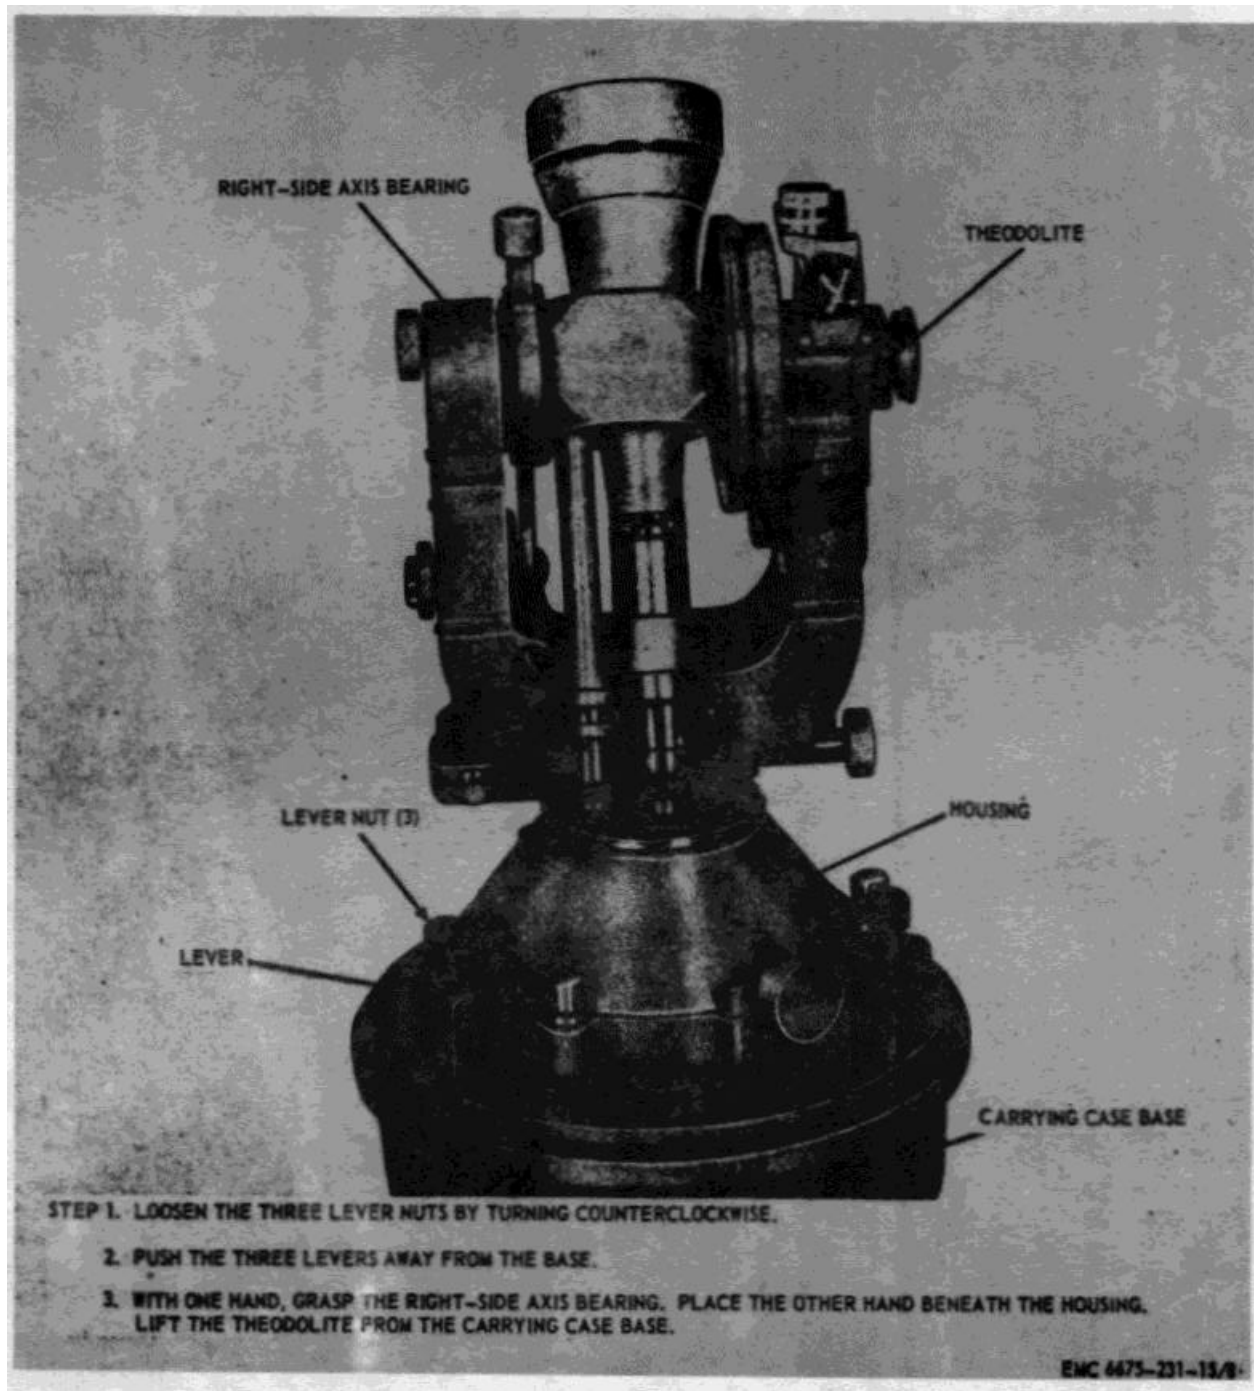

Figure 8. Carrying case base, removal and installation.
- (4) Refer to figure 8 and remove the carrying case base.